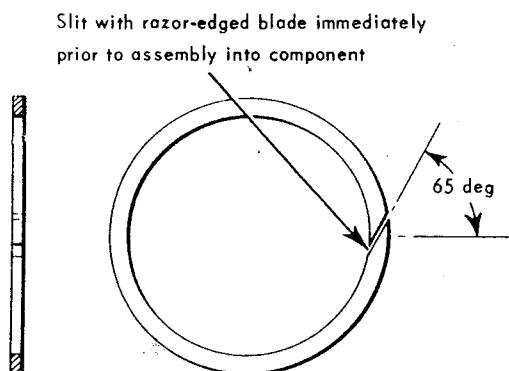

Fig. 2 Piston head sealing ring
(1) Fit a new backing seal and two new sealing rings to each of the piston head grooves. Slit each ring as shown in figure 2 immediately prior to fitting. When fitting, space the first pair of rings with the slits 180 deg apart and similarly space the second pair with the slits at 90 deg to those of the first pair.